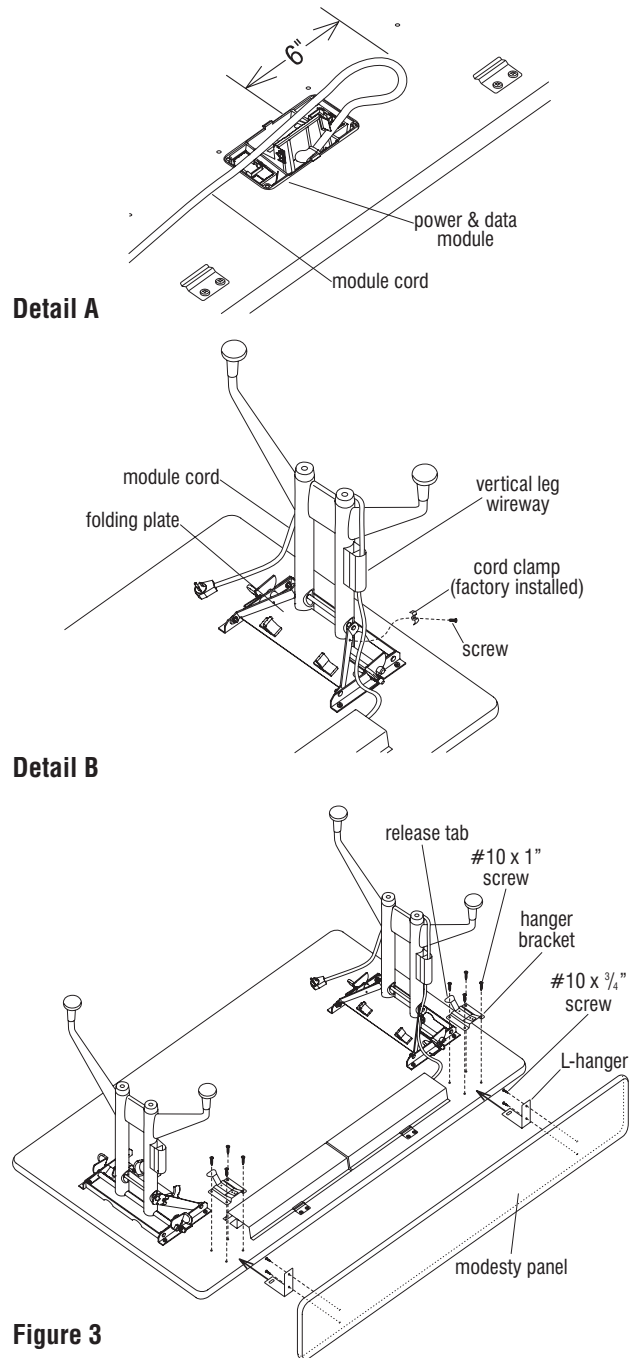

Figure 3
1. Place table top upside down on a soft protective surface. Orient hanger brackets as shown over pre-drilled holes and mount to underside of table top with four #10 x 1" screws each, not to exceed 40 in/lbs of torque (Figure 3). Carefully turn table to upright position.
2. Lay modesty panel on a soft protective surface with pre-drilled holes facing up. Fasten L-hangers to the modesty panel with two #10 x 3/4" screws each, not to exceed 25 in/lbs of torque (Figure 3).
3. To install the modesty panel under the table, slide the L-hangers of the modesty panel into the hanger brackets on the underside of the table top. When the mechanisms engage, a "click" will sound at each bracket (Figure 3).
4. To remove the modesty panel, the release tab on each hanger bracket must be pulled down while the modesty panels' L-bracket are pulled out (Figure 3).